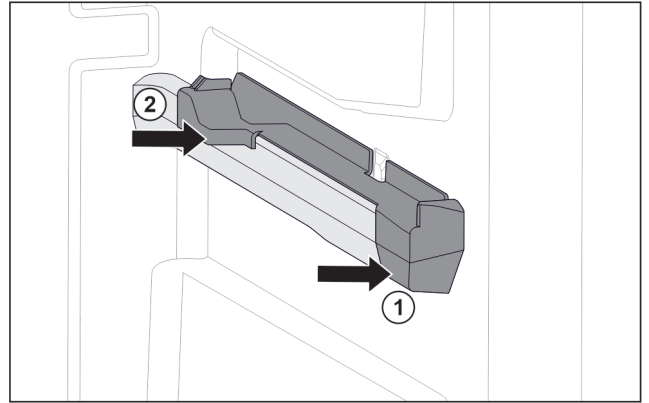

Fig. 28 Attachment on the right moulded rib
- ▶ Position attachment on moulded rib at the front. Fig. 28 (1)
- ▶ Press on attachment at the back. Fig. 28 (2)